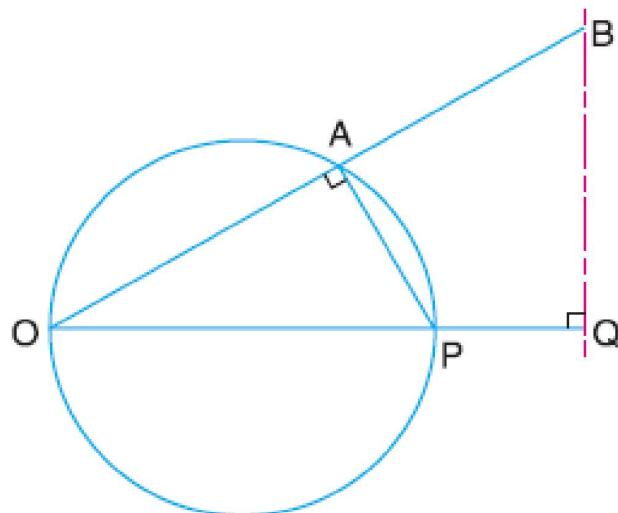

Fig. 4.1 Exact straight line motion mechanism
- The principle adopted for a mathematically correct or exact straight line motion is described in Fig.4.1